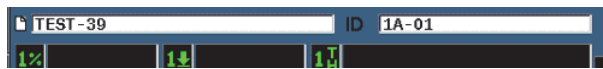

Figure 10-7 ID of open file in the live screen
- Press **Open** (P2 key) to open the selected file and return to the live screen. The ID of the opened file is displayed at the top of the screen (see Figure 10-7 on page 210).